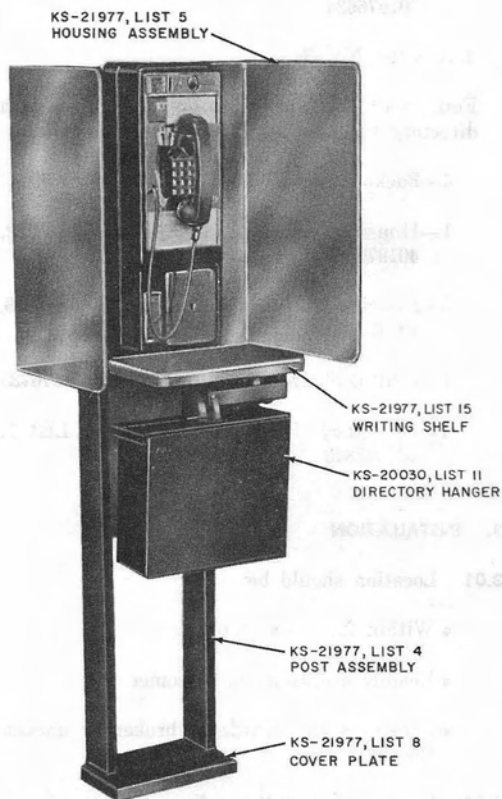
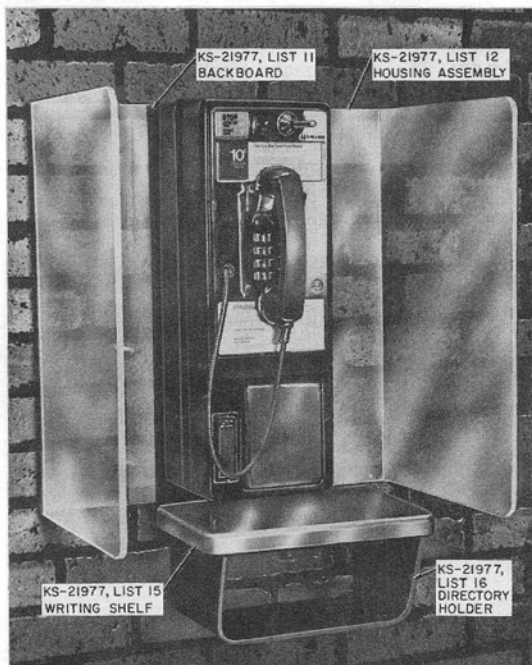

Fig. 1—KS-21977, List 1 Pedestal Mounting With
Fig. 2—KS-21977, List 10 Wall Mounting
1.01 The KS-21977 coin telephone mounting (Fig. 1 and 2) is a transparent U shaped enclosure intended for indoor use. It can be post mounted or wall mounted.
2.05 A KS-20030, List 11 or KS-21435, List 1 directory hanger (Fig. 1) can be used in lieu of the KS-21977, List 16 directory holder (Fig. 2).